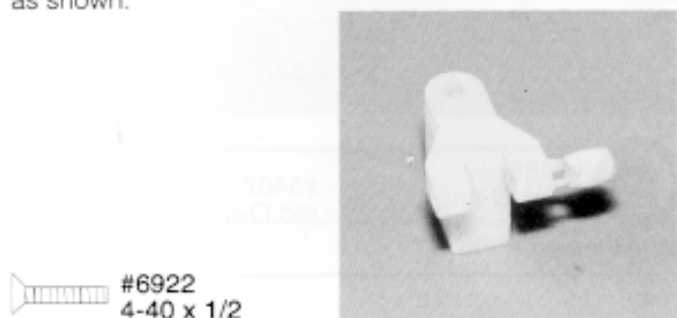
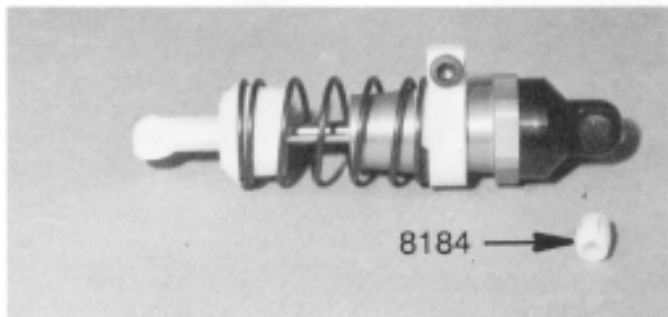

Fig. 38
Fig. 58
□ **Figs. 38 & 39** In bag 4 you will find the #8184 shock/antenna mount and two #6922 4-40 x 1/2" FHSScrews. The shock mount has a small football-shaped, molded piece on one end; trim this off and set it aside, for we will use it a little later. Using the two 4-40 x 1/2" FHSScrews, install the shock/antenna mount on the chassis as shown.
Fig. 58 & 59 Back in fig. 38 we removed the small shock bushing from the #8184 antenna/shock mount. Now insert that bushing inside the hole on the aluminum shock cap.